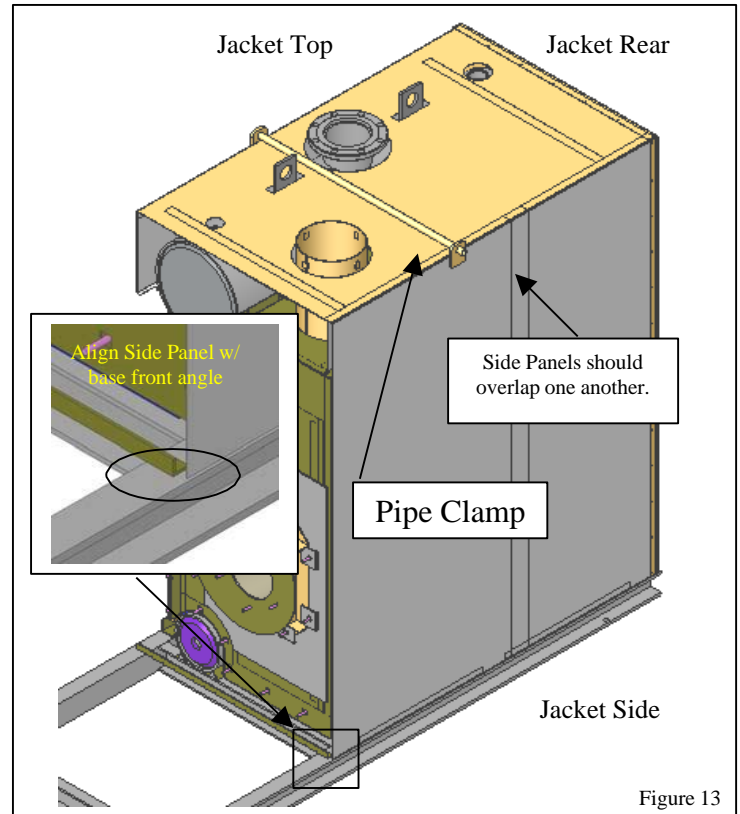
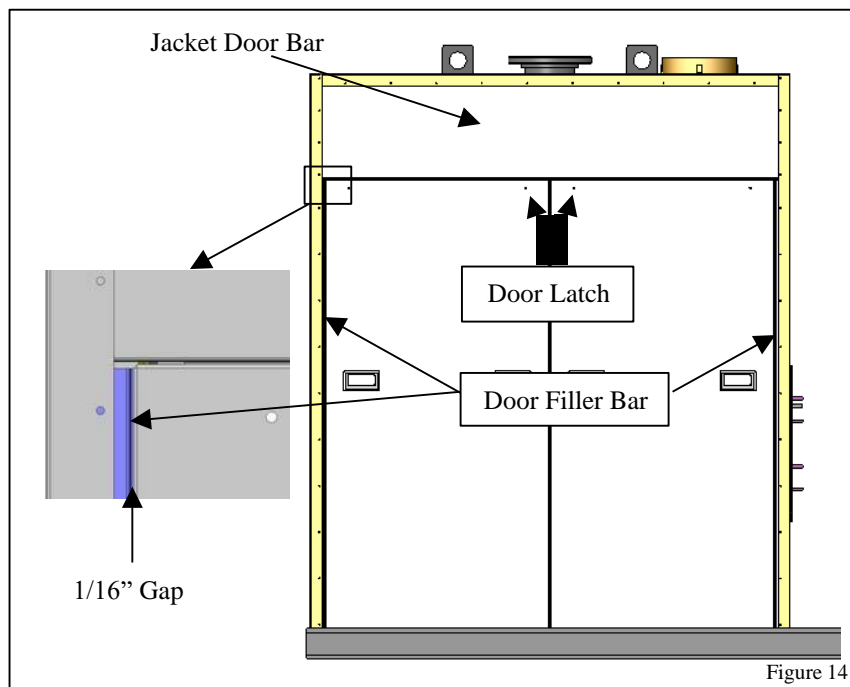

Figure 13
Figure 14
4.2 Place jacket Side panel/panels upon the edge of the boiler base assembly. Position the flange of the jacket Side panel to overlay Jacket Top panel. Align side panel/panels with the base assembly jacket Front and Rear angles. See Figures 14 & 15. If boiler uses multiple Side panels, the panels should overlap one another. Once alignment is complete, screw the bottom of the Side panel into the base assembly jacket Side angle. Use a pipe clamp to hold the top of the Side panel in position. See figure 13.
- 4.5 Make sure again that jacket Front and Rear is level. Screw in the bottom of jacket Front/Rear about every 8". Next, screw along the rest of the top of jacket Front and Rear. Finally, screw in the top of jacket Side Panel. See figure 13.
- 4.7 Install Door Bar by sliding it between the yellow insulation wrap and jacket Top, Front and Rear. Secure Door Bar in place with provided sheet metal screws. See Figure 14.
- 4.8 Install both jacket door Filler bars but do not screw into place. Install all jacket Doors with a 1/16" gap and lock door latches. Square door Filler Bars by means of the door side in addition to about a 1/16" gap and screw Filler bars into place. Unlock doors and confirm they can still be removed smoothly and easily. See Figure 14.